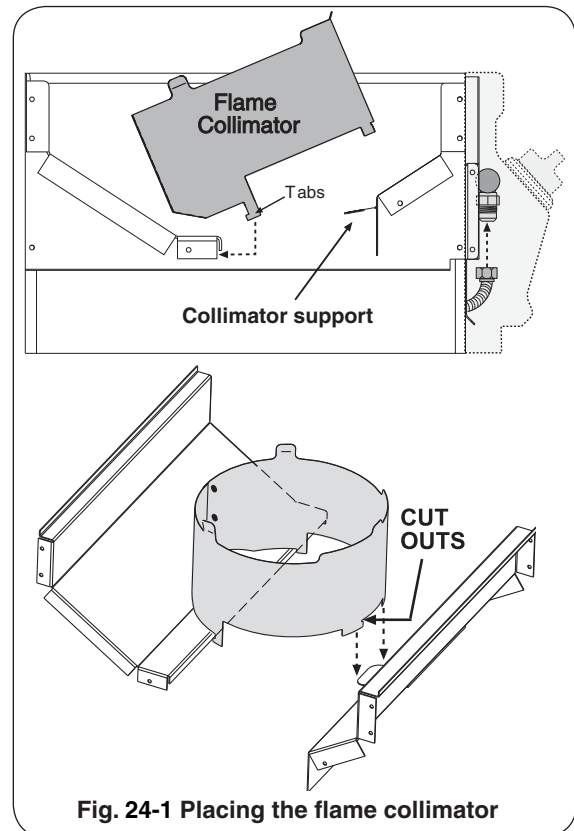

Fig. 24-1 Placing the flame collimator
1. Place the flame collimator over the burner with the tabs and cutouts resting on the inner shell, as shown in Fig. 24-1. Flex the front of the collimator towards the burner until the cutouts fit down around the collimator support. This will lock your collimator into place. The flame collimator acts as a barrier for windy conditions and creates higher BTU concentration to the support grid.
1. Remove the cover, cooking grid, and flame collimator. Compress the collimator front to back to release the front lock then rotate up as shown in Fig. 24-1.